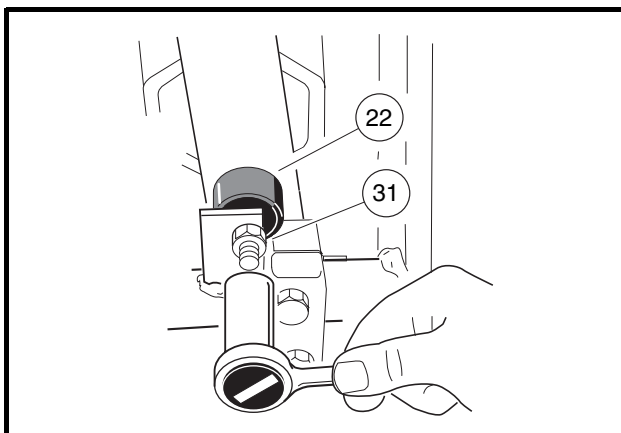
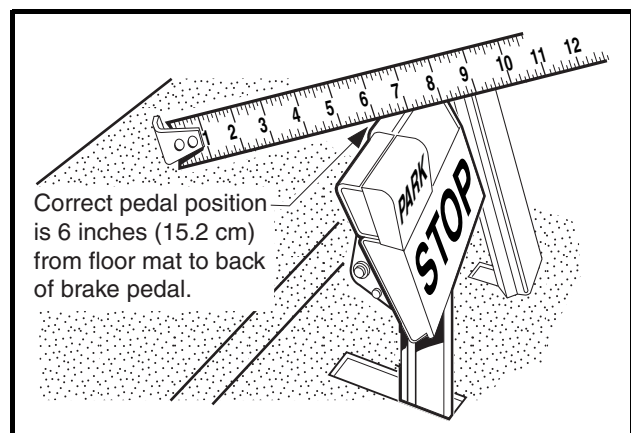

Figure 5-10 Brake Pedal Height Adjustment
Figure 5-11 Brake Pedal Height Measurement
- 2.3. Loosen the brake stop jam nut (31), then relieve pedal pressure on the stop by pushing down slightly on the pedal. Next, adjust the brake stop bumper (22) up or down (**Figure 5-10, Page 5-11**). Adjusting the bumper upward decreases distance between pedal and floorboard. Adjusting the bumper downward increases distance between pedal and floorboard. Proper brake pedal height is 6 inches (15.2 cm) (**Figure 5-11, Page 5-11**).
- 2.4. Tighten the jam nut (31) to 8 ft-lb (9.5 N·m) (**Figure 5-10, Page 5-11**).
- 3.1. Measuring perpendicular from the floorboard to the back of the brake pedal, press the brake pedal and measure the distance that the pedal moves before all of the slack is taken out of the brake cables (**Figure 5-11, Page 5-11**).